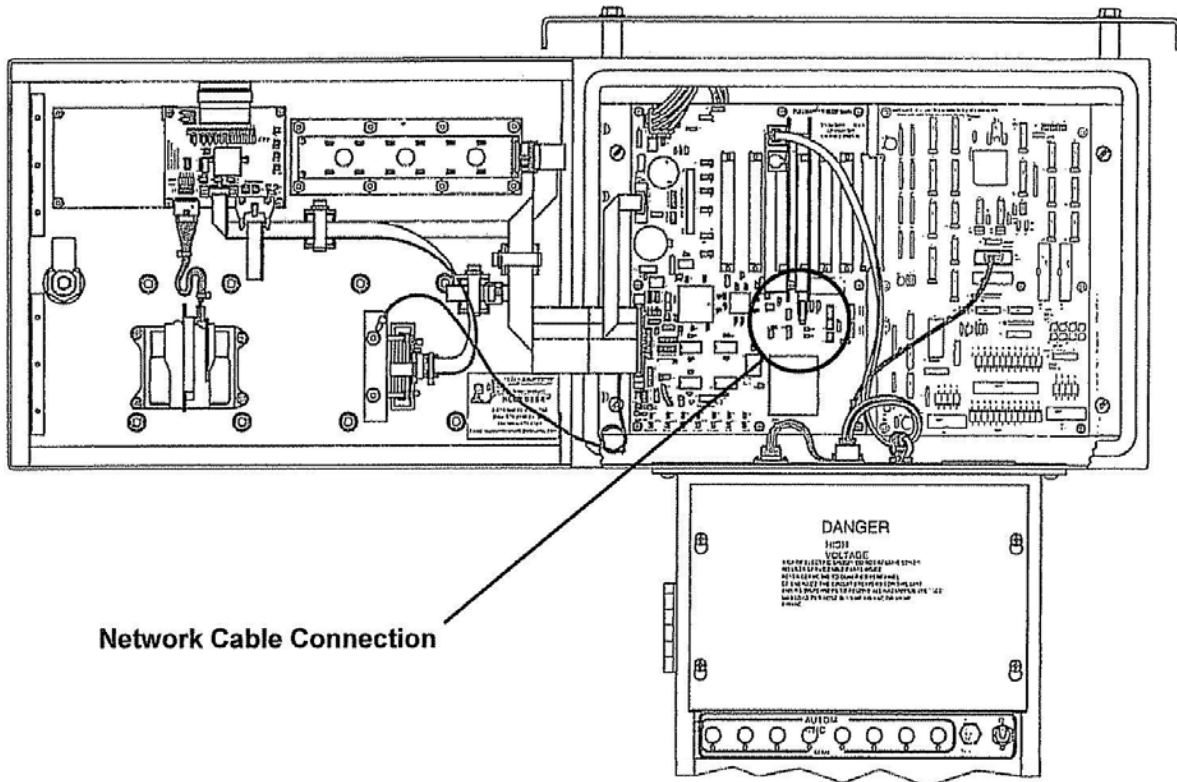

Figure 4-6. Network Cable Connection
3. **Network Cable** (see Figure 4-6). Either Cat 5e/6 or fiber optic cable may be run to the FMU, but only Cat 5e/6 may be terminated in the FMU Network Interface Card (NIC). When fiber optic cable is used to carry network signals to the FMU, a fiber optic converter will be required to step fiber optic down to cable. Product Bulletin 178 describes the installation of one common fiber optic converter. Unlike other wires and cables that connect to the Pedestal I/O Board, the Cat 5e/6 cable must be routed to the NIC plugged into the mainboard with an RJ45 connector.